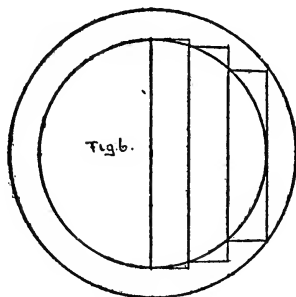

FIGURE 6.
*Ex. 3.* How many yards of  $\frac{3}{4}$  plain Brussels does it require for a circular room (Fig. 6), radius=6' 9"?
*Ex. 4.* How many yards of  $\frac{3}{4}$  body and  $\frac{5}{8}$  border are required for a circular room (Fig. 6), radius=8'  $7\frac{1}{2}''$ ?